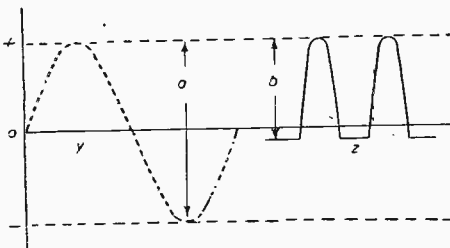

Fig. 10.—Magnitude of inverse voltages across rectifier valve.
c.p.s. system, this being due to the induced positive peaks which are applied to the anode of the rectifier. The (full line) waveform of Fig. 10 depicts the shape of such a pulse, and it can be clearly seen that there is a great reduction in their amplitude in the negative direction as compared with the sine waveform (broken line) of 50 c.p.s. mains. The magnitude of the inverse voltage across the rectifier employed in a 50 c.p.s. circuit may, therefore, be represented by the line (a), while line (b) represents that due to a flyback pulse, and for this reason a smaller rectifier may be used in conjunction with equipment obtaining E.H.T. from the flyback than its 50 c.p.s. counterpart, for a given output voltage.